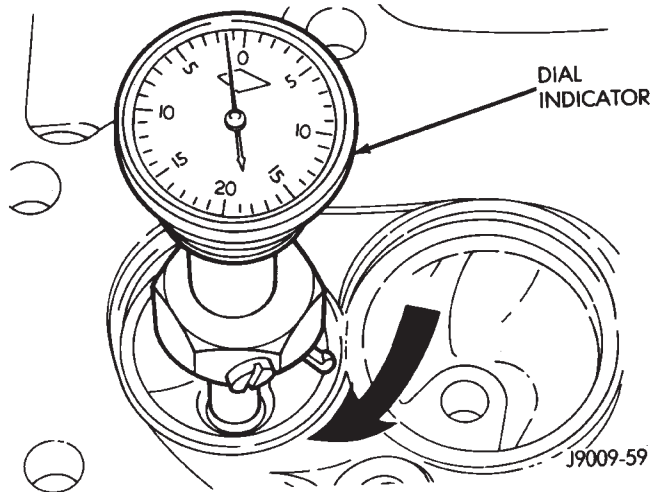

Fig. 66 Measurement of Valve Seat Runout
(1) Install a pilot of the correct size in the valve guide bore. Reface the valve seat to the specified angle with a good dressing stone. Remove only enough metal to provide a smooth finish.
(2) Use tapered stones to obtain the specified seat width when required.
(3) Control valve seat runout to a maximum of 0.0635 mm (0.0025 in.)— (Fig. 66).